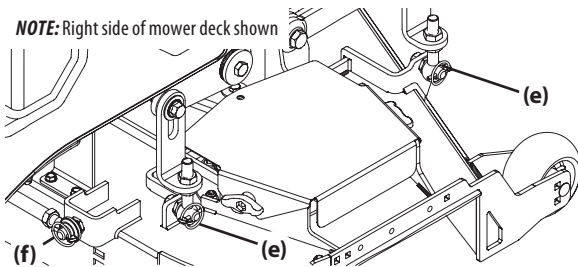

Figure 29
4. Remove the four lynch pins (e) that secure the deck to the deck lift assembly (Figure 29).
5. Remove the lynch pin (f) securing the rear stabilizer bar to the rear, right side of the deck. (Figure 29).